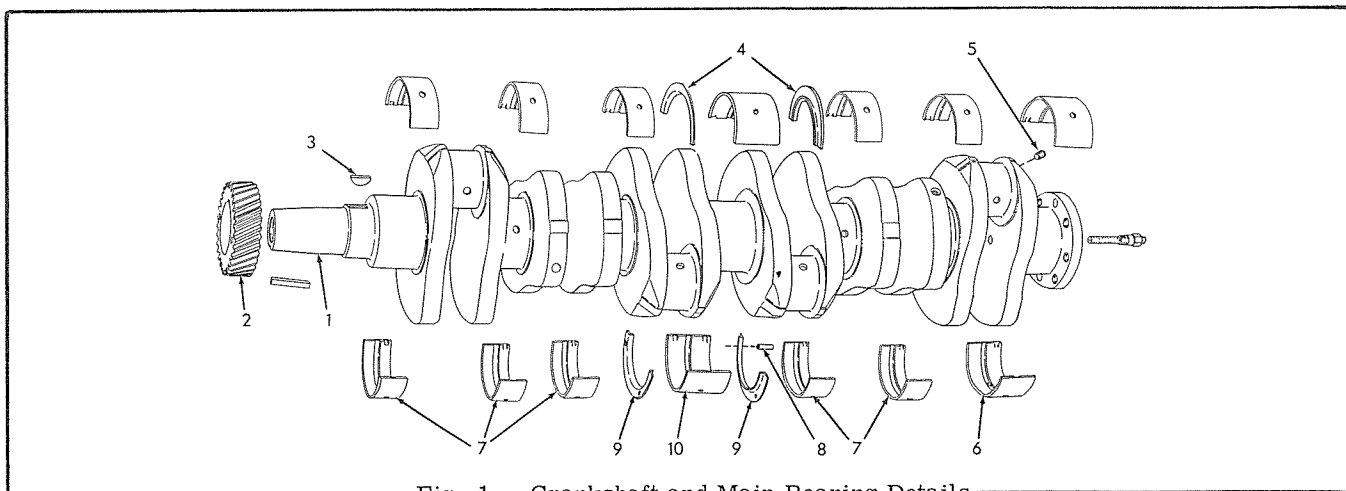
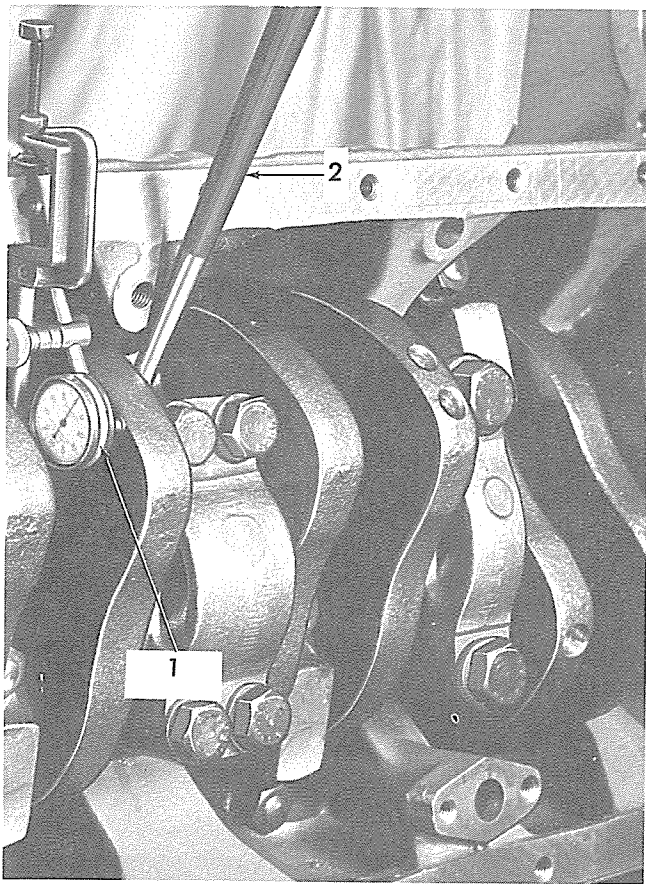

Fig. 1 — Crankshaft and Main Bearing Details
Fig. 3 — Measuring End Play of Typical Crankshaft (T-71528)
The seven bearing, counterbalanced crankshaft is a steel drop forging, carefully heat-treated to assure utmost strength and durability. The crankshaft is balanced dynamically. End thrust of the crankshaft is taken up by thrust flanges, Fig. 1 (4) (9), at the center main bearing. The specified end play of the crankshaft is .006" - .014" and must not exceed .022". Thrust flanges are available in standard size and .005", .010" and .015" oversize.
main bearing cap, insert upper thrust flanges Fig. 1 (4) (flanges without dowel pin holes) with oil grooves of thrust flanges located next to cheeks of the crankshaft. Position lower
3. Check end play of the crankshaft using a dial indicator as shown in Fig. 3. The specified end play is .006" - .014" and must not exceed .022". The end play is controlled by thrust flanges at the center main bearing, Fig. 1 (4) (9). If end play is not within the specified range, replace thrust flanges. Thrust flanges are available in standard thickness (.126" - .127") and .005", .010", and .015" oversize.